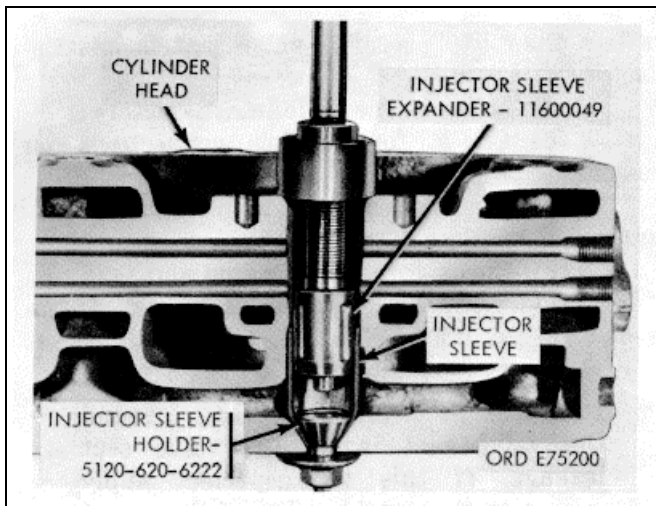

Figure 3-41. Injector sleeve rolling-upper portion.
(3) Using sleeve expander (13, fig. B-28), roll upper portion of injector sleeve to 1.145/1.155 inches inside diameter as shown in figure 3-41.